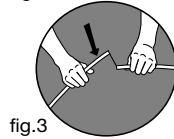

fig.3
• Push down on the disconnected rods until they join together. This forms the free standing frame. See fig.3.